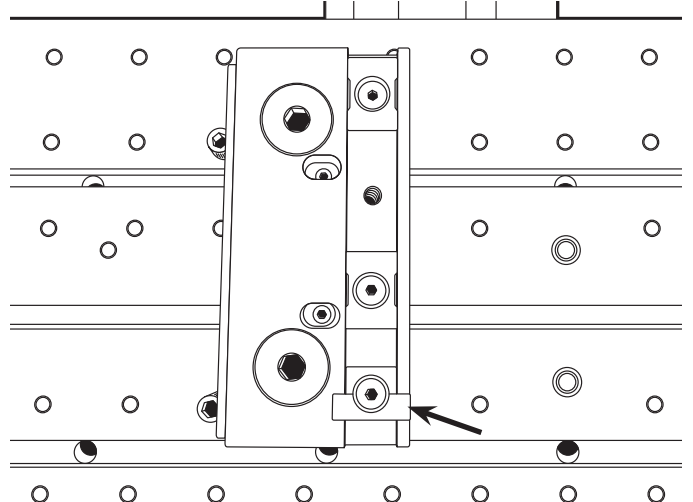

FIGURE 18—The low profile hard stop in the forward orientation.
2. As an option to the adjustable stop that comes with the 3552, you can also purchase the low profile hard stop (P/N 35528). This hard stop is designed to fit in the same insert slot on the fixed jaw and it is used in conjunction with the Talon Grip Jaw Inserts (P/N 35526). It can be mounted on any of the holes for the jaw inserts, and it can be mounted in the forward or reverse orientation (see Figures 18 and 19).